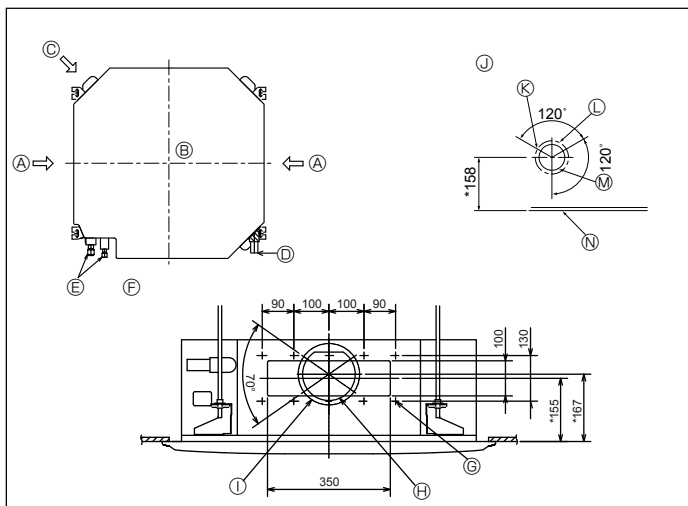

Fig. 3-4
3.4. Branch duct hole and fresh air intake hole (Fig. 3-4)
At the time of installation, use the duct holes (cut out) located at the positions shown in Fig.3-4, as and when required.